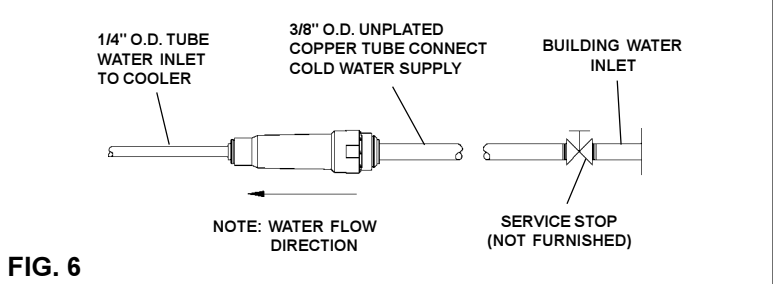

FIG. 6
8. **Connect** the refrigeration package to the supply line with a shut off valve and install a 3/8" (10mm) unplated copper water line between the valve and the cooler. Remove burrs from outside of waterline. Insert water line straight into the fittings until they reach a positive stop, approximately 3/4". (See Figs. 6 and 7) **DO NOT SOLDER TUBES INSERTED INTO THE STRAINER AS DAMAGE TO THE O-RINGS MAY RESULT.**